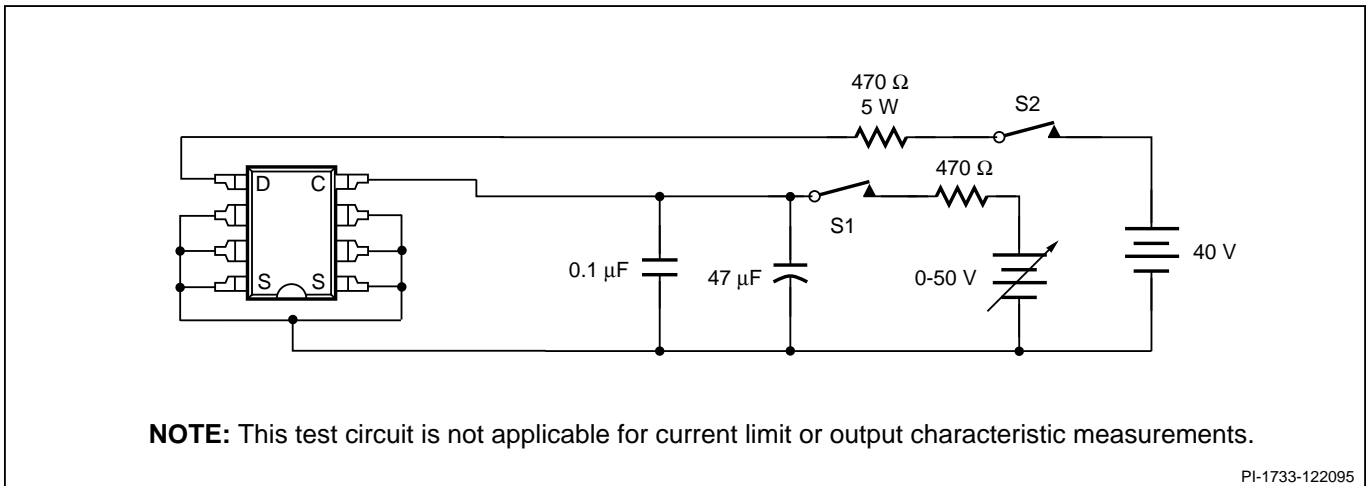

Figure 12. TOPSwitch General Test Circuit.
(Unless Otherwise Specified) See Figure 12 SOURCE = 0 V $T_J = -40$ to 125 °C
- B. The breakdown & leakage measurements can be accomplished by using the *TOPSwitch* auto-restart feature. The divide-by-8 counter in the auto-restart circuitry disables the output MOSFET from switching in 7 out of 8 cycles. To place the *TOPSwitch* in one of these cycles, the following procedure can be carried out using the modified circuit of Figure 12:
The following precautions should be followed when testing *TOPSwitch* by itself outside a power supply. The schematic shown in Figure 12 is suggested for laboratory testing of *TOPSwitch*.